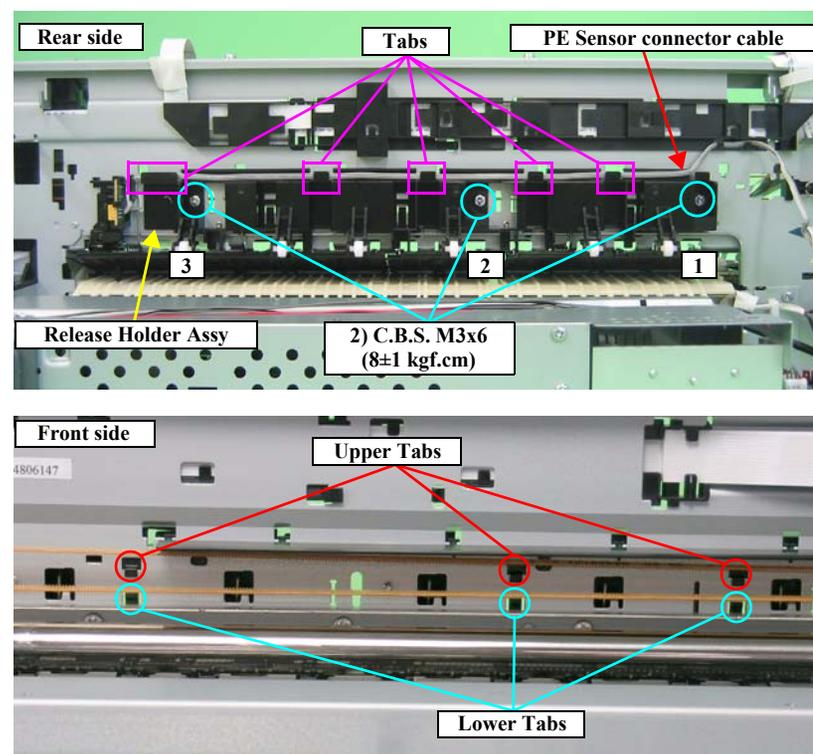

Figure 3-134. Removing the Release Holder Assy
- Align the three upper tabs on the Release Holder Assy with the positioning holes on the Main Frame. See Figure 3-134 \(p.90\)
- Tighten the screws in the order shown in Figure 3-134